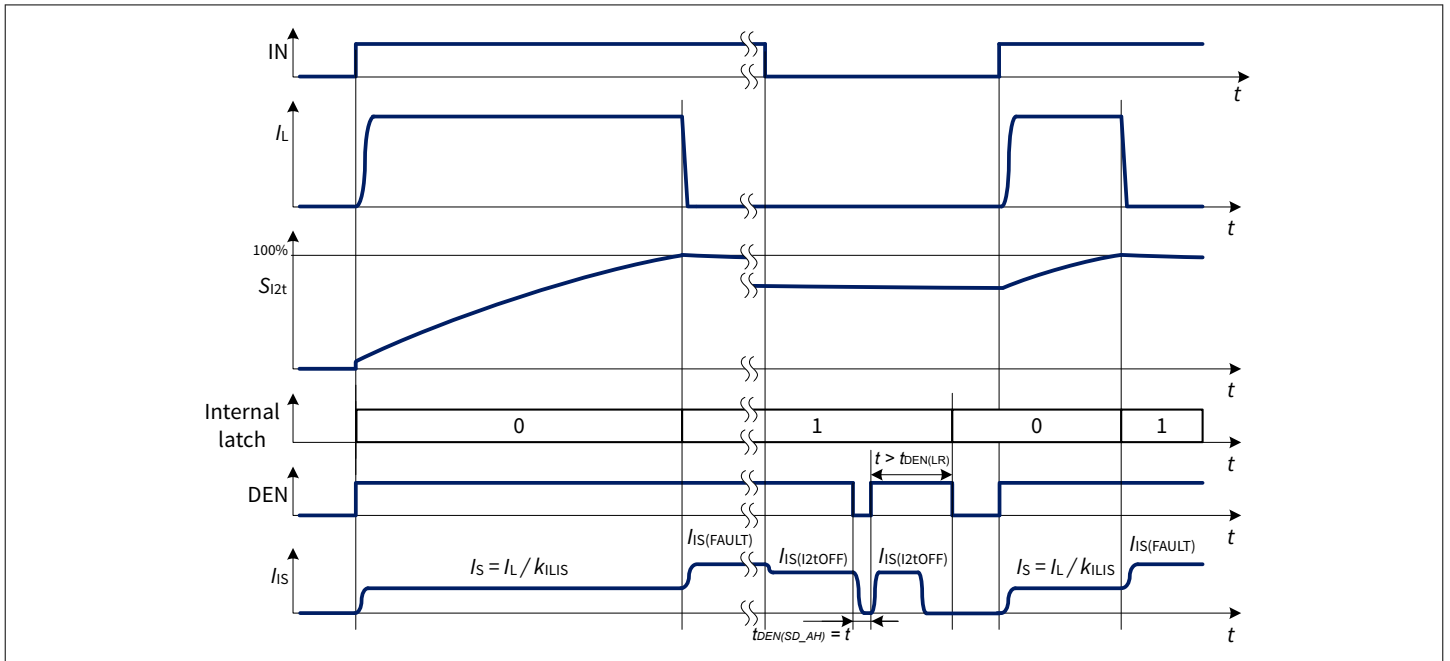

Figure 39 Intelligent latch timing diagram for DEN reset in case of triggered I2t protection
- With DEN pin: It is possible to “force” a reset of the internal latch without waiting for $t_{\text{DELAY(LR)}}$ by applying a pulse (rising edge followed by a falling edge) to the DEN pin while the IN pin is “low”. The pulse applied to DEN pin must have a duration longer than $t_{\text{DEN(LR)}}$ to ensure a reset of the internal latch (see Figure 39)